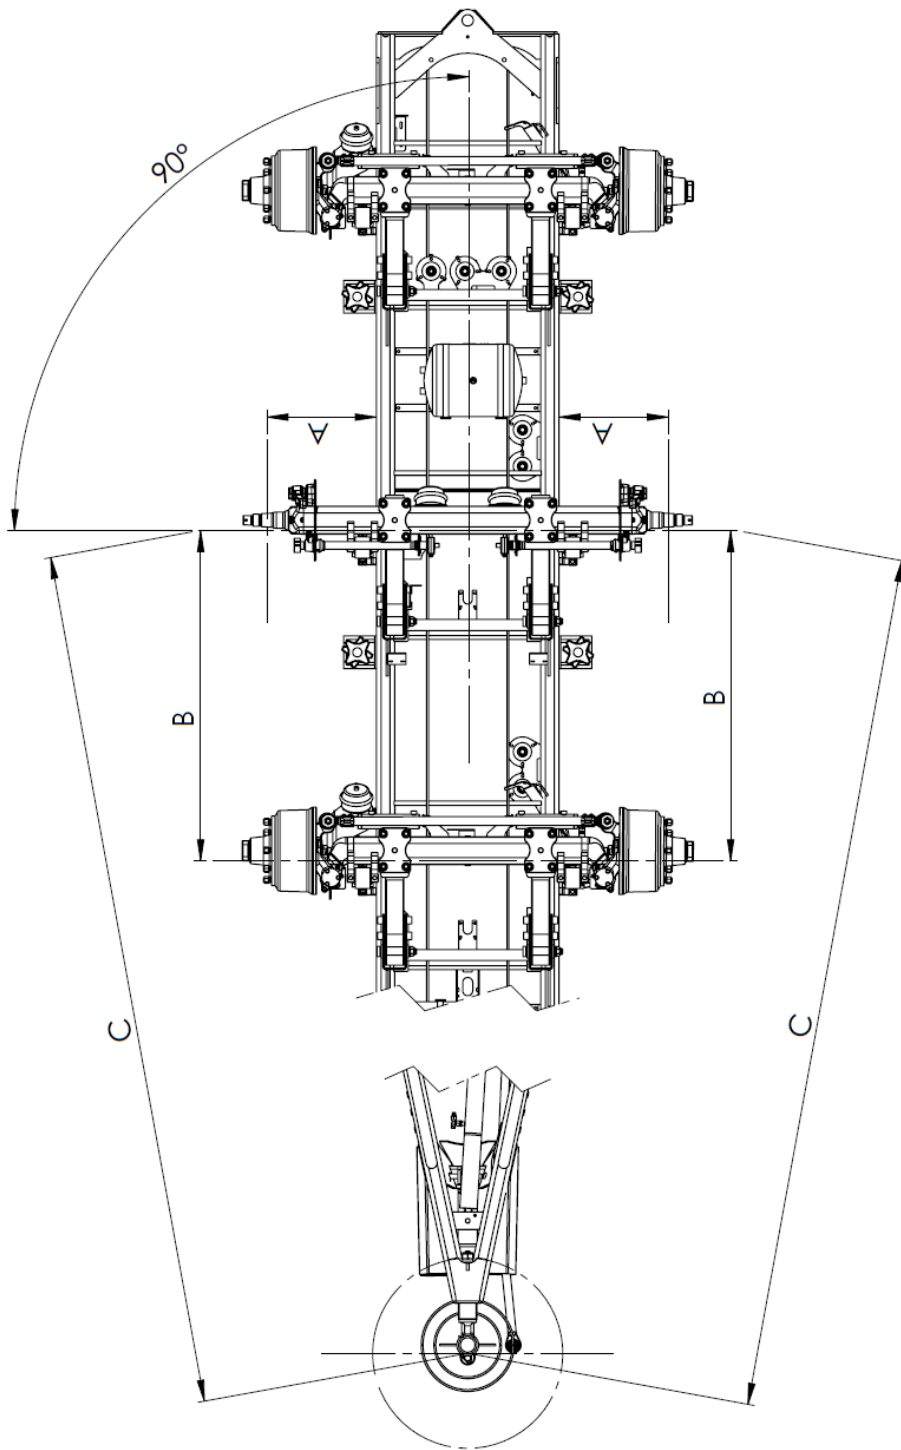

Figure 10-1 Align rigid axis with simple measuring tool
It is important that the axles under the towed vehicle are correctly aligned. These should always be aligned with the drawbar eye. Alignment can be performed with simple measuring tools, as seen in Figure 10-1, but laser equipment is recommended. With the help of laser equipment, alignment can be carried out faster and more accurately.
- Measure the distance from the drawbar eye to two fixed points left and right on the axle, distance C in Figure 10-1. The hub cap is often used for this purpose, but any fixed point on the shaft can serve as a measuring point. Note that this point must be present both on the left and right side of the axle in the same position to form a good reference point.
- Check that the axle is positioned as perpendicular as possible to the chassis sleeves. This can be done by measuring distance A, as seen in Figure 10-1. This distance must be the same on the left and right sides of the chassis.
- Measure the distance between the rigid axle and the steered axle, distance B in Figure 10-1. This distance must be the same on the left and right.